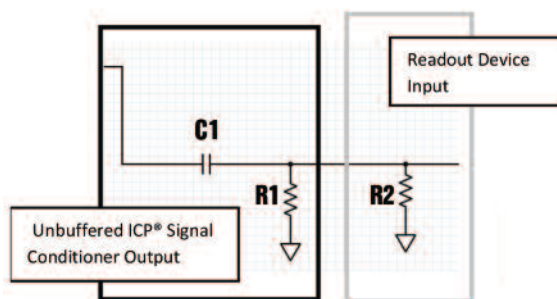

Figure 1 - Unbuffered Circuit Schematic
1. Unbuffered output: The output impedance of the conditioner is set by a series capacitor and a shunt resistor. This resistor forms a parallel circuit with the input impedance of the readout device (see Figure 1).
### Key for Figures 1 and 2
- R1** (in Figure 1) = Output resistor that sets the output impedance of signal conditioner
C is the capacitance value of the signal conditioner output coupling capacitor. R is not the signal conditioner output impedance. The signal conditioner output impedance and the readout device input impedance are in parallel (Figure 1). This makes R the total parallel impedance of this portion of the circuit. The total R value is dependent on both the impedance value of the signal conditioner and the readout device. This is critical because the R value in the DTC equation is a system impedance. Total parallel impedance is calculated by Equation 2.